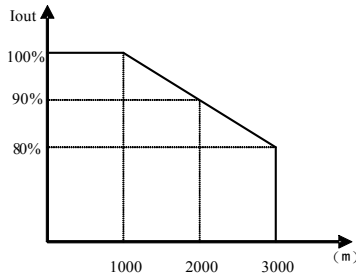

Fig 1-5 Derating drive's output current with altitude
- Derating must be considered when the drive is installed at high altitude, greater than 1000m. This is because the cooling effect of drive is deteriorated due to the thin air, as shown in Fig. 1-5 that indicates the relationship between the elevation and rated current of the drive.